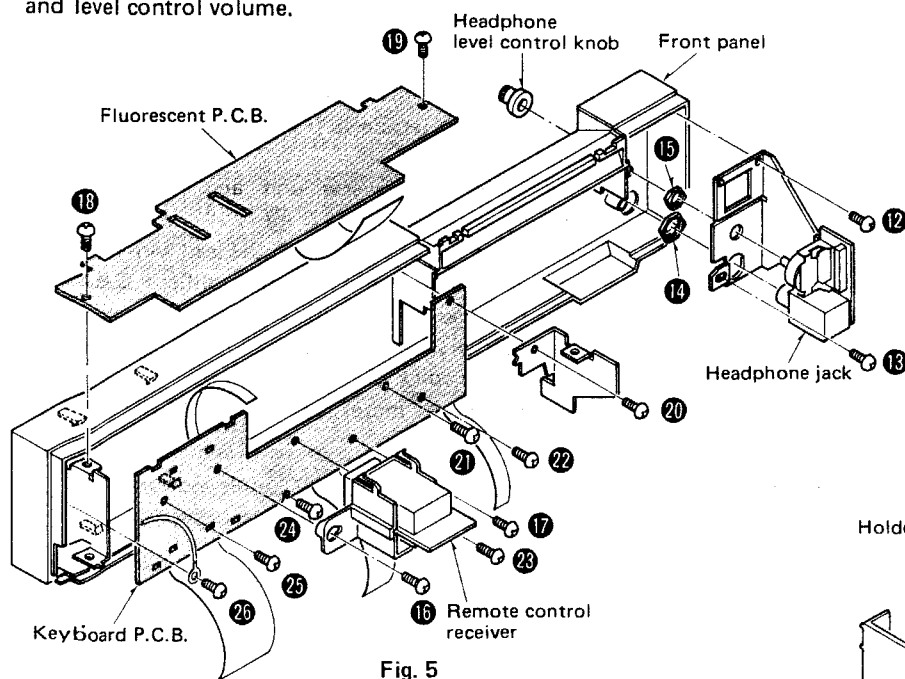

Fig. 5
3. Remove the 2 headphone jack fitting setscrews [Fig. 5: ⑫, ⑬]
4. Remove the 2 nuts [Fig. 5: ⑭, ⑮] of headphone jack and level control volume.
2. Remove the 2 setscrews [Fig. 5: ⑯, ⑰] of receiver.
3. Remove the 2 setscrews [Fig. 5: ⑱, ⑲] of fluorescent P.C.B., then the fluorescent P.C.B. can be removed.
4. Remove the 7 setscrews [Fig. 5: ⑳ ~ ㉓] of P.C.B. and release the 4 claws, then the keyboard P.C.B. can be removed.